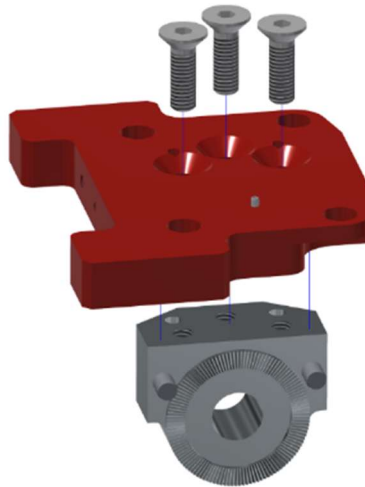

Figure 6-36. Attach the Bottom Lumbar Posture Gear (474-3063-A) to the Lumbar Posture Adjustment Base Plate (474-3071-A)
- 6.3.6 Attach the Bottom Lumbar Posture Gear (474-3063-A) to the Lumbar Posture Adjustment Base Plate (474-3071-A) using three M6 X 1 X 20 LG. FHCS (Figure 6-36).